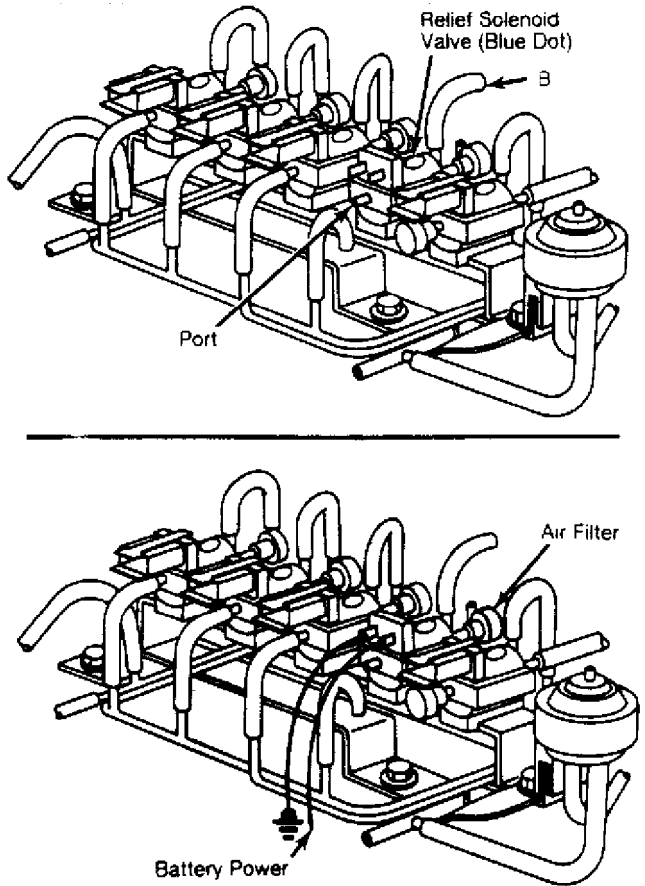

Fig. 3: Testing Relief Solenoid Valve
1) Disconnect vacuum sensing tubes from relief solenoid valve and vacuum pipe. Blow through solenoid valve from vacuum sensing tube "B" in Fig. 3. Air should pass through valve and escape from front port.